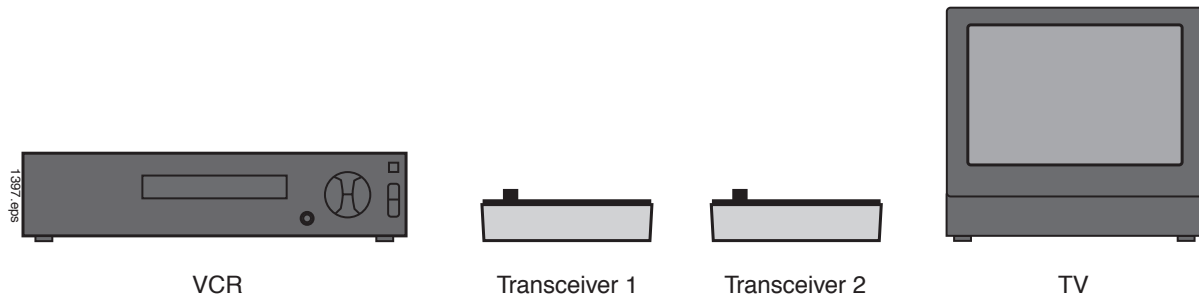

Figure 10. Initial position of equipment for completing video signal transmission over optical fiber.
1. Position the VCR, the two transceivers and the television on the table top as shown in Figure 10.